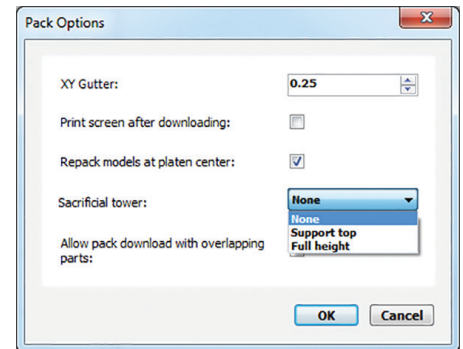

Figure 12: The Full height option is selected in the Sacrificial tower dropdown menu of the Pack Options.
**STEP 2:** In the Sacrificial tower options dropdown menu, select the **Full height** option (Figure 12).